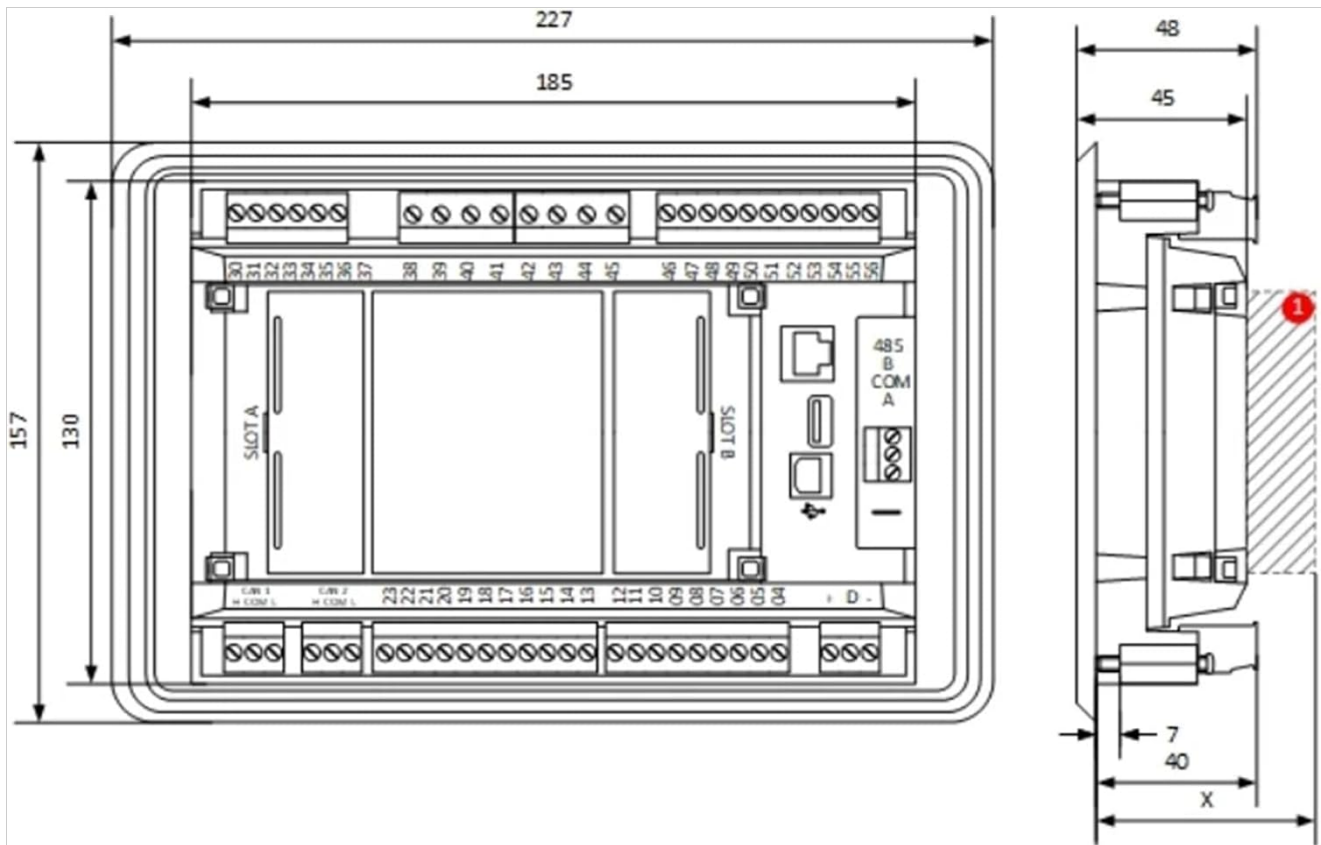

Figure 2: IntelliGen 500 G2 Controller Dimensions
- **Dimensions (W x H x D):** Approximately 227 mm x 157 mm x 48 mm (Refer to Figure 2)